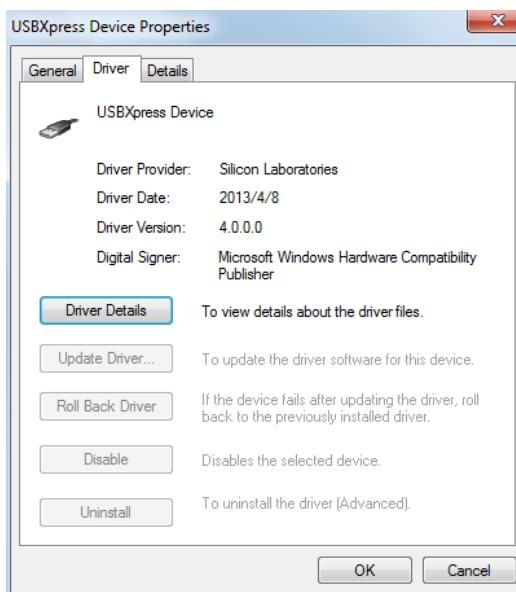

Figure 14: Correct Driver Version
If the PC is running Windows 10, check the driver version of USBXpress Device. Windows 10 automatically installs the older USB driver, which is not compatible. The correct driver version is 4.0.0.0 (see Figure 14).
2. Connect the EVKT-USBI2C-02 communication interface to the PC with the USB cable (see Figure 14).